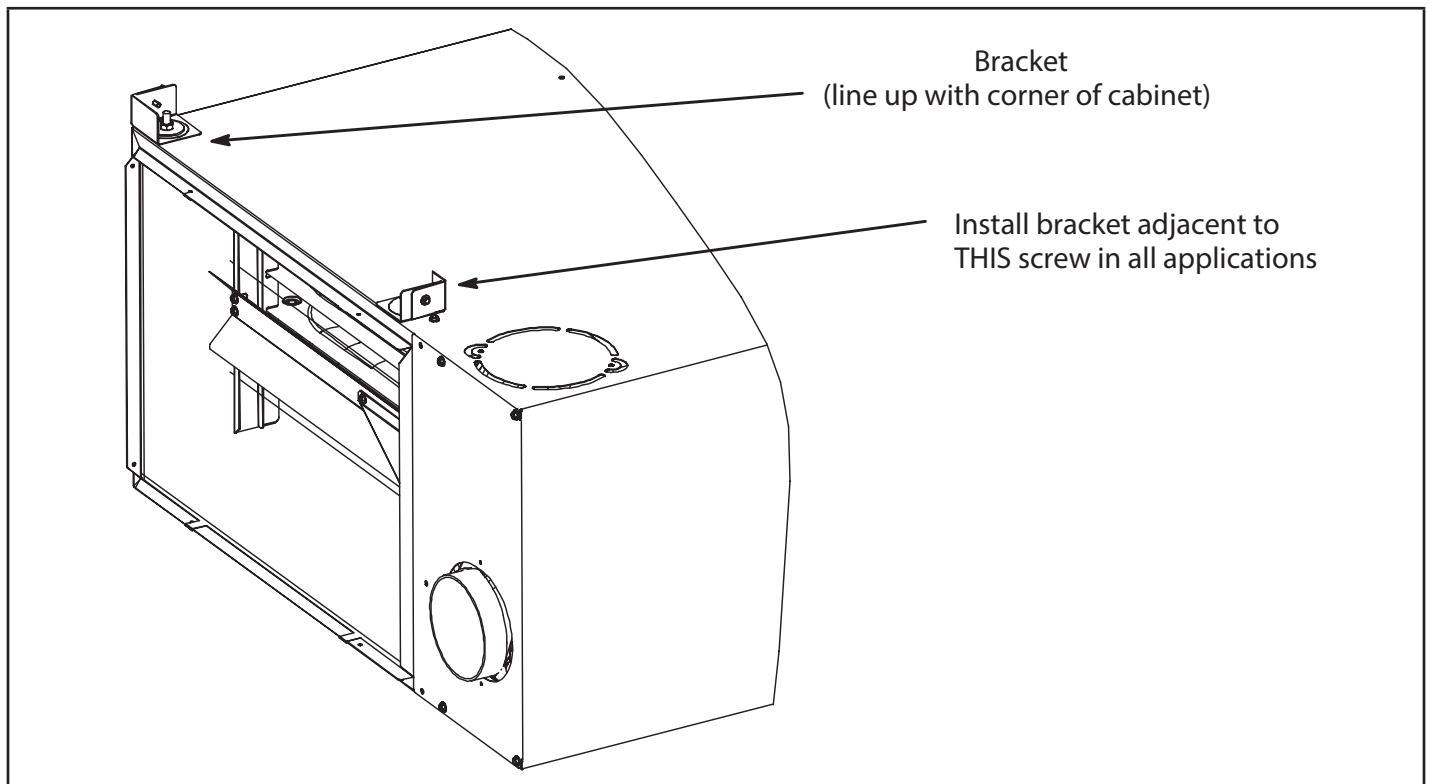

FIGURE 2
- 5 - At the supply end of cabinet, position bracket at the corner of the cabinet as shown in figure 2. Use the bracket as a guide to drill the third hole in the side of the cabinet. Secure bracket to cabinet using provided bolts, washers and nuts.
- 6 - Position bracket adjacent to screw on side of cabinet as shown in figure 2. Use bracket as a guide to drill the fourth hole. Secure bracket to cabinet using provided bolts, washers and nuts.